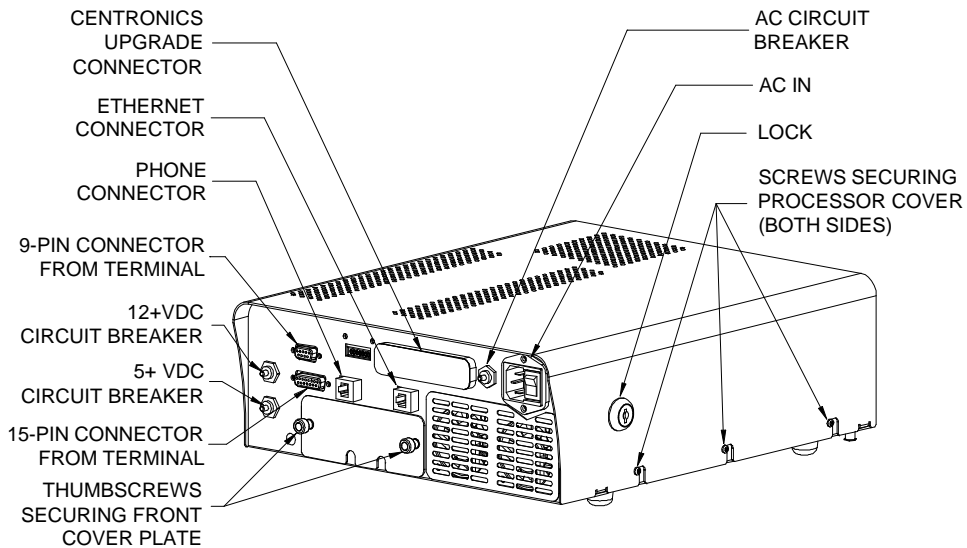

FIGURE 12B - EXTERNAL CONNECTION LOCATIONS ON VIBE WITH COIN PROCESSOR
7. *Vibes with coin only:* Connect the 9-pin (standard DB, 2 rows of pins) connector from the terminal to the mating connector on the outside of the processor and tighten the screws on the connector to secure it. See Figure 12B. (This cable is easily identified as it has braided sleeving covering it.)